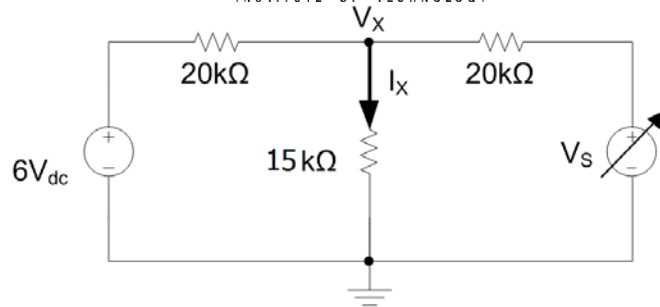

Figure 4-3: Variable voltage source circuit
- Copy Figure 4-3 into your lab book. Use the measured values of the resistors in your circuit and apply circuit analysis symbolically to find two formulas for V_x and I_x as a function of V_s in Figure 4-3.
- Use NI Multisim to check your work by building the circuit in Figure 4-3 with $V_s = 10\text{V}$. Use the multimeter to measure the voltage V_x and I_x and compare the results to your hand calculations.
- Create a spreadsheet with headings V_s , V_x , and I_x . Then make rows under V_s from -10 to +10 V in steps of 2. Put the formulas you derived for Figure 4-3 in the spreadsheet and calculate V_x and I_x for all of the voltage values. These are the predicted values for the measurements you will make during lab. Submit the spreadsheet as part of your pre-lab submission.
- Circuit of Figure 4-3 with components and test points properly labeled